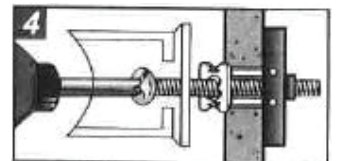

Figure 4.3.3
4.3.3 Place thumb between strap. Push thumb side to side, snapping off straps level with flange cap as shown in Figure 4.3.3.